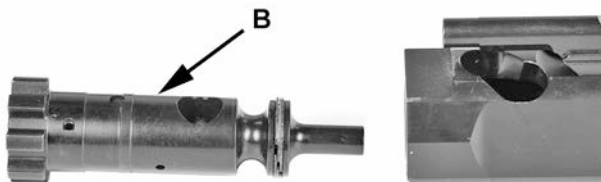

Figure 33
6. Remove bolt assembly (B) from bolt carrier assembly. See figure 33.